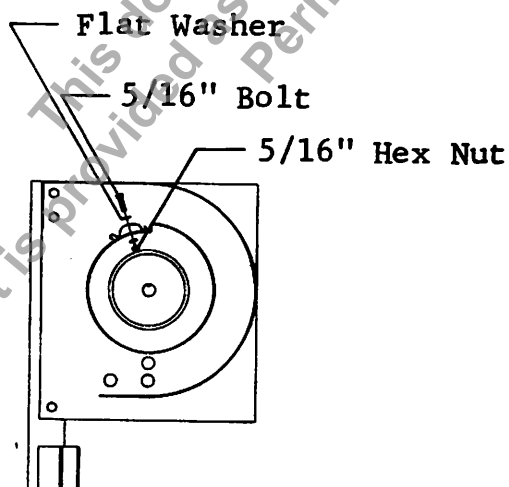
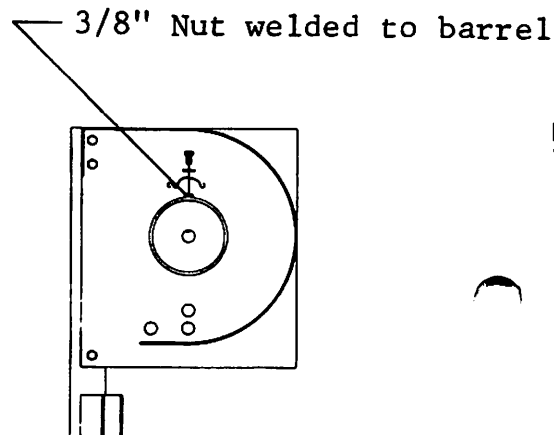

**FIGURE 7**
**FIGURE 7A**
**STEP 7** Raise the curtain into the opening as shown in Figure 7. Attach the anchor slats to the barrel as shown in Figure 7A, 7B or 7C.